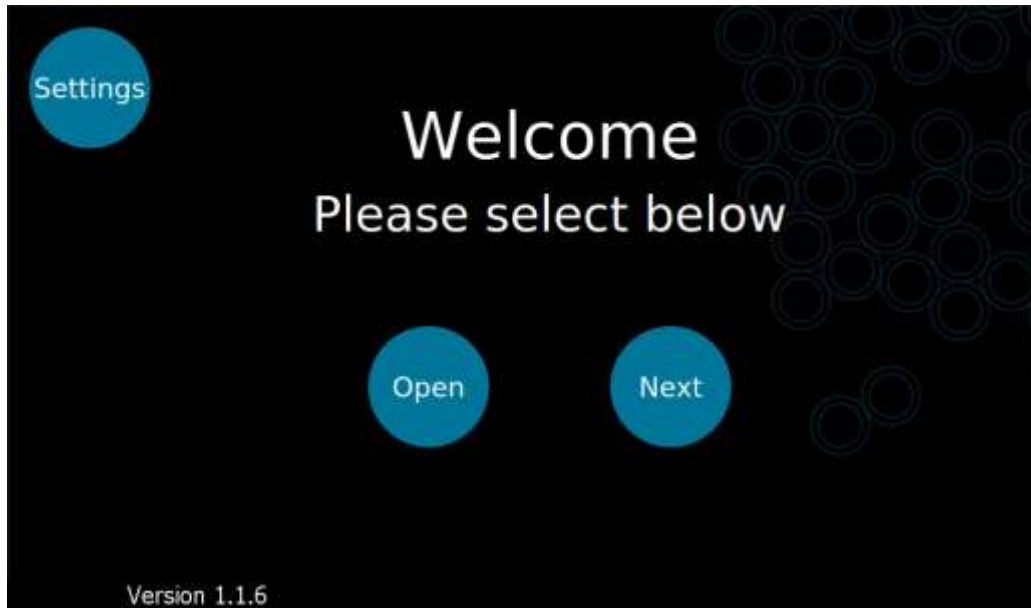

Fig. 5.7. The Xdrop instrument “welcome screen”. Press “open” to eject the drawer.
1. Press “Open” on the Xdrop instrument touchscreen to eject the drawer (Fig. 5.7).